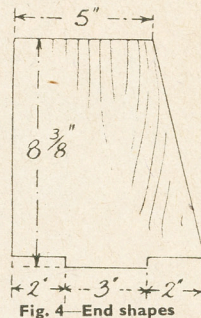

Fig. 4—End shapes
Some care must be taken in setting out the three uprights (B) to the outline given in Fig. 4. If the base and its mortises have been prepared as mentioned, then the tenons should be carefully checked for length from these before the cutting actually takes place. Glue the parts together and check the angles inside with a set square or a metal try square.